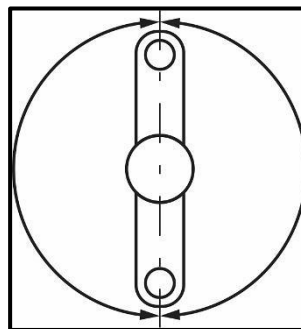

FIGURE 4.3
- 4.3 FIGURE 4.3 below shows the position of the crankpins in a four-stroke inline engine. Identify the number of cylinders for the crankpin positions shown.